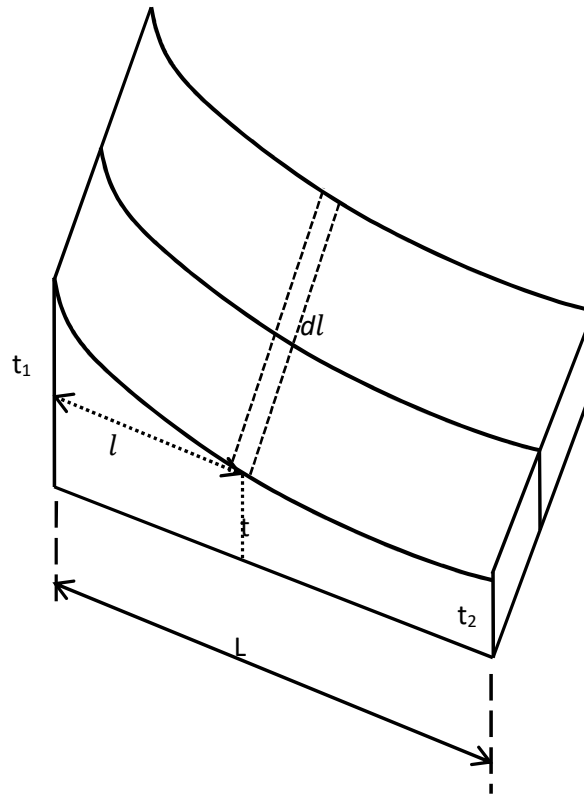

Figure 1. Two steel workpieces with varying cross-section
6. As shown in figure 1 below, thicknesses of two steel workpieces vary from t_1 to t_2 over their lengths L . These workpieces are to be welded using an electric arc welding setup, on which the welding speed can be programmed to vary as function of time, during the welding process. The voltage, E and current, I cannot be varied during the process. The welding process inputs are as following: